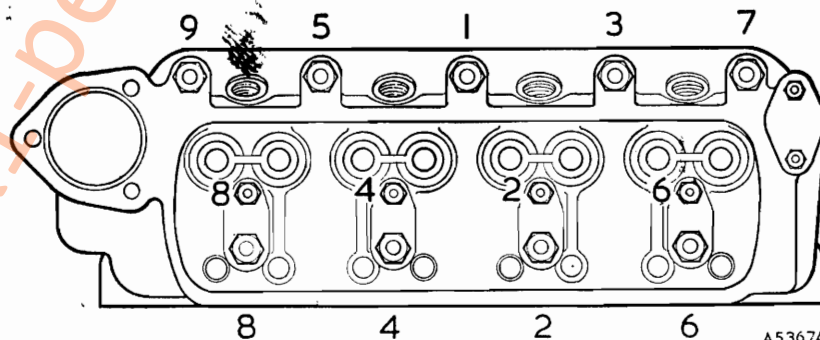

Fig. A.4
- (16) Reverse the dismantling procedure.
- (17) Fit the plugged end of the shaft and the tapped bracket at the front of the engine.
- (18) Tighten the cylinder head and rocker shaft nuts to the recommended torque and in the order shown in Fig. A.4.
(10) Thoroughly clean the faces of the cylinder head and the top of the block, and fit a new gasket without jointing compound or grease. The gasket is marked 'TOP' and 'FRONT'.
(11) Tighten the cylinder head and rocker shaft nuts to the correct torque and in the order shown in Fig. A.4. The additional bolt on the Cooper 'S' must be tightened last. **Do not overtighten.**
(12) Adjust the valve rocker clearances, start the engine and when warm re-check.